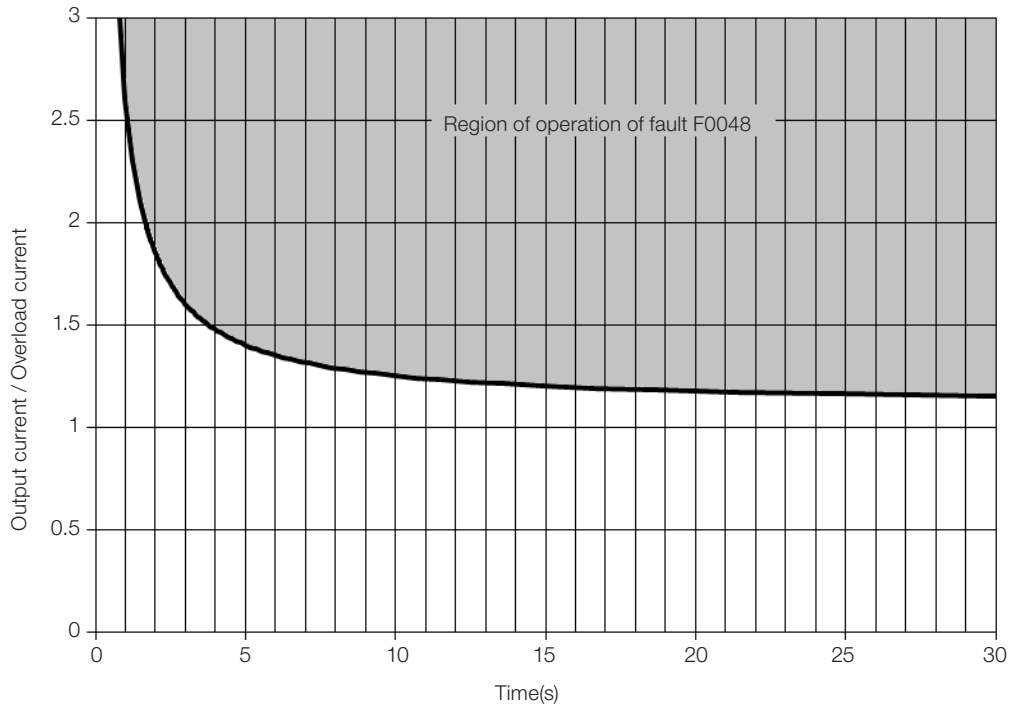

Figure 18.3: Actuation of the overload of the IGBTs (Normal Duty - ND)
In normal duty (ND), fault F0048 occurs around 4 seconds for 150 % of overload, as shown in Figure 18.3 on page 18-5. Likewise, the fault will not occur for current values below 110 % of the inverter rated load.